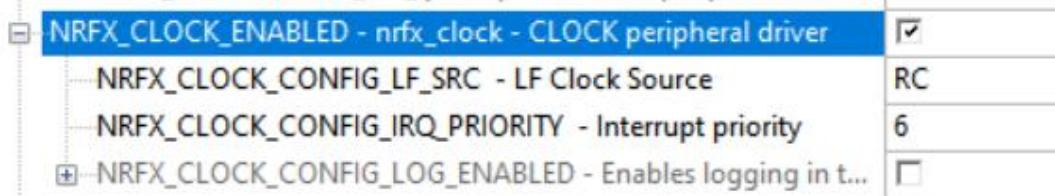

Figure 2-8 NRFX\_CLOCK\_ENABLED
a.Unfold "nRF\_Drivers" ->"NRFX\_CLOCK\_ENABLED" Make the changes as shown in Figure 2-8